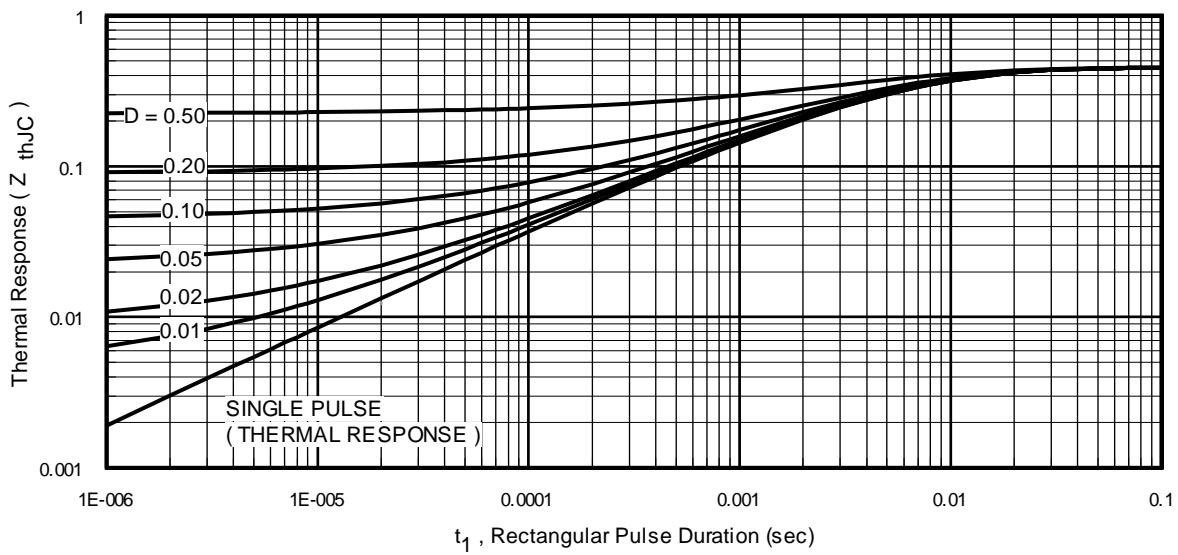
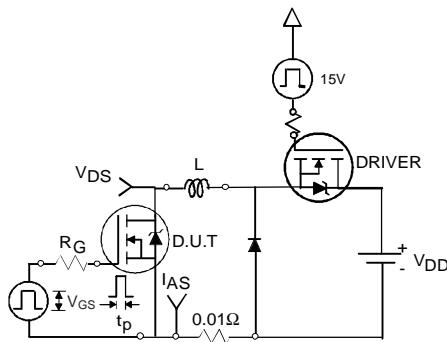

Fig 11. Maximum Effective Transient Thermal Impedance, Junction-to-Case
Fig 12a. Unclamped Inductive Test Circuit
- ① Repetitive rating; pulse width limited by max. junction temperature. (See fig. 11).
- ② Limited by $T_{J\max}$, starting $T_J = 25^\circ\text{C}$, $L=0.24\text{mH}$, $R_G = 25\Omega$, $I_{AS} = 75\text{A}$, $V_{GS} = 10V$. Part not recommended for use above this value.
- ③ $I_{SD} \leq 75\text{A}$, $dI/dt \leq 220\text{A}/\mu\text{s}$, $V_{DD} \leq V_{(\text{BR})\text{DSS}}$, $T_J \leq 175^\circ\text{C}$.
- ④ Pulse width $\leq 1.0\text{ms}$; duty cycle $\leq 2\%$.
- ⑤ $C_{oss \text{ eff.}}$ is a fixed capacitance that gives the same charging time as C_{oss} while V_{DS} is rising from 0 to 80% V_{DSS} .
- ⑥ Limited by $T_{J\max}$, see Fig.12a, 12b, 15, 16 for typical repetitive avalanche performance.
- ⑦ This value determined from sample failure population. 100% tested to this value in production.
- ⑧ This is applied to D²Pak, when mounted on 1" square PCB (FR-4 or G-10 Material). For recommended footprint and soldering techniques refer to application note #AN-994.
- ⑨ Max $R_{DS(\text{on})}$ for D²Pak and TO-262 (SMD) devices.
3. Equation below based on circuit and waveforms shown in Figures 12a, 12b.
$Z_{thJC}(D, t_{av})$ = Transient thermal resistance, see figure 11)